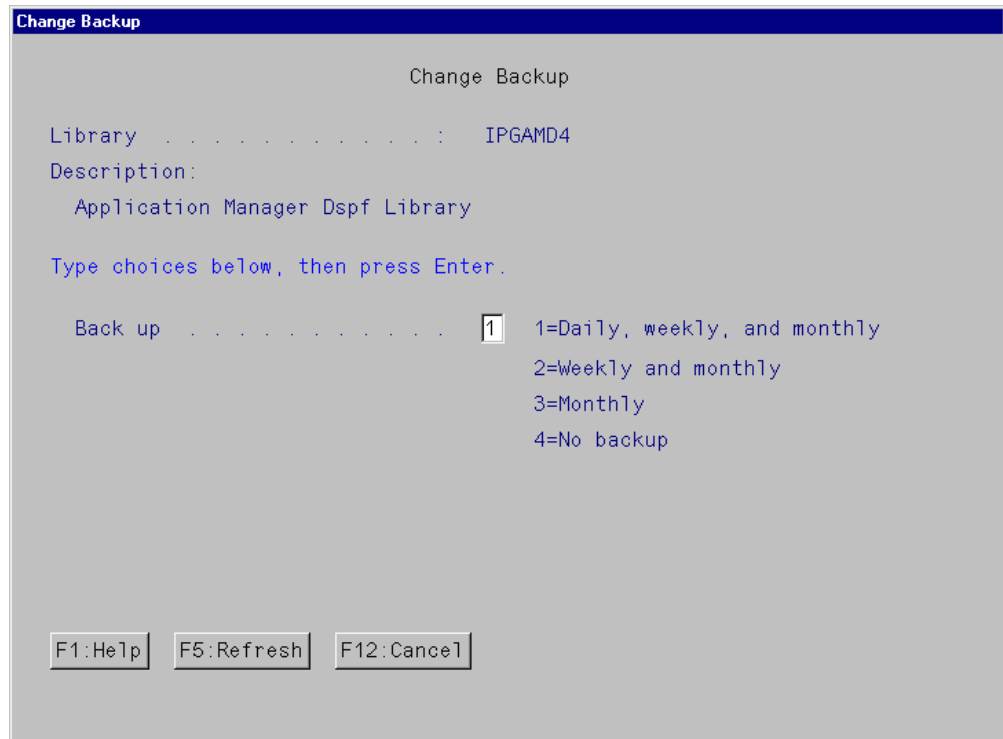

Figure 161. Change Backup panel
- **Change backup:** Allows you to specify when to back up this library when using the select list for backups (shown in Figure 161).